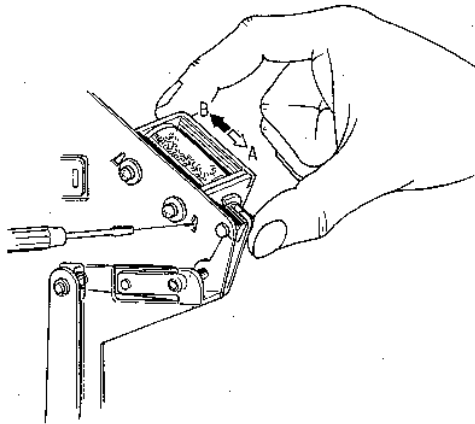

Fig. 5.10
- (1) Remove the mechanism ass'y referring to item 3.6, mechanism ass'y removal procedure. See Fig. 5.10.
- (2) Loosen the screw a little and move the solenoid in the A direction.
- (3) Depress the play button.
- (4) Holding the solenoid as shown in the figure, slide the solenoid gradually by a flat screwdriver in the B direction.
- (5) Then play button will release. Move the solenoid approximately 0.1 to 0.3 mm from the released point in the B direction. Fasten the solenoid.
- (6) Assemble the mechanism ass'y and turn the power switch ON. And check to insure whether the solenoid can be released at the Play, FF, REW and Pause modes.